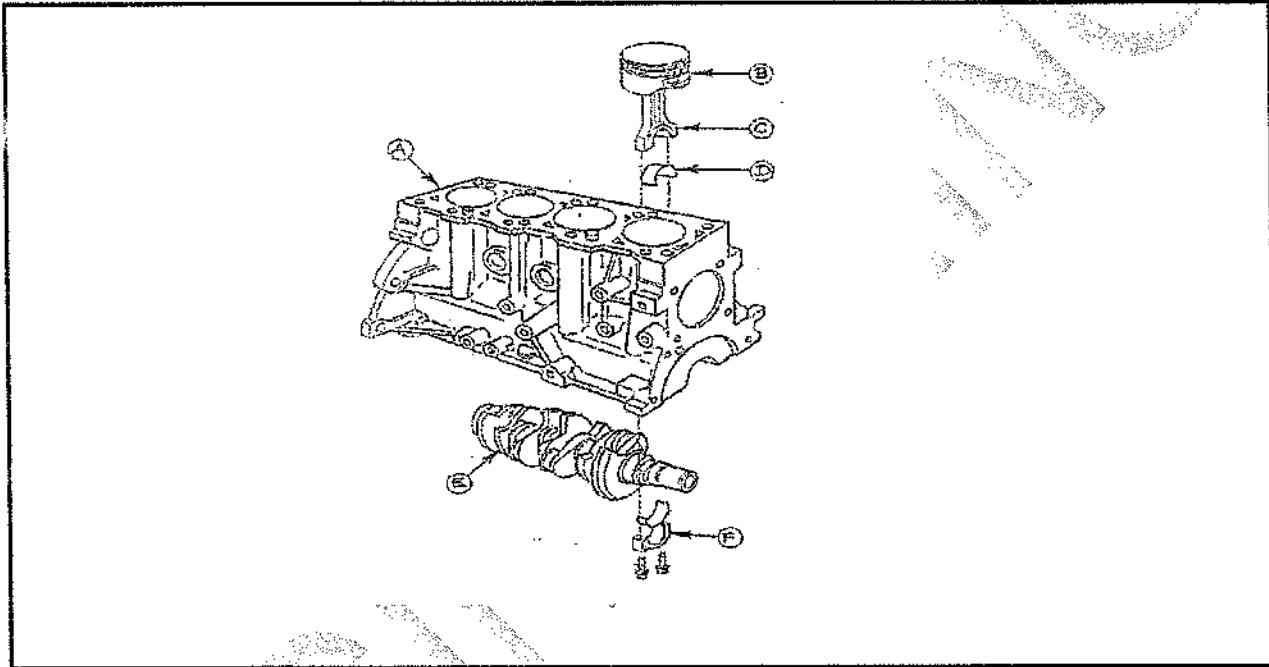

FIGURE 2
2.1 FIGURE 2 below shows a sketch of the parts of an internal combustion engine.